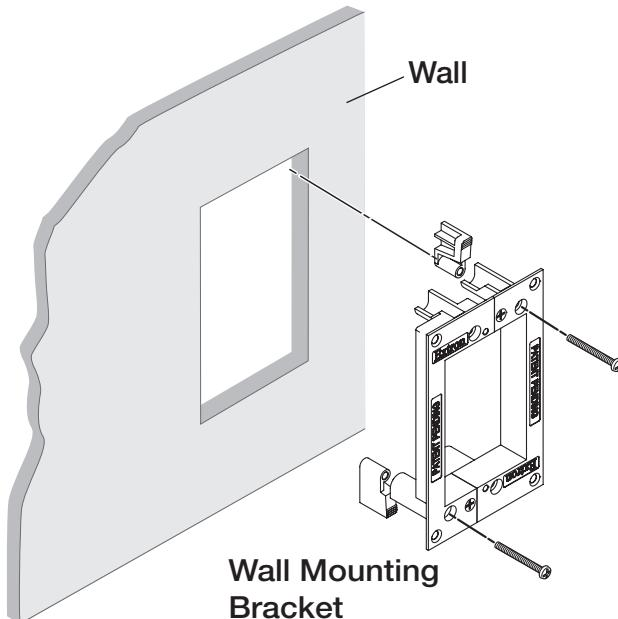

Figure 4. Installing the Mud Ring
- Insert the mud ring into the opening and rotate and secure the locking arms with the supplied screws shown in figure 4.